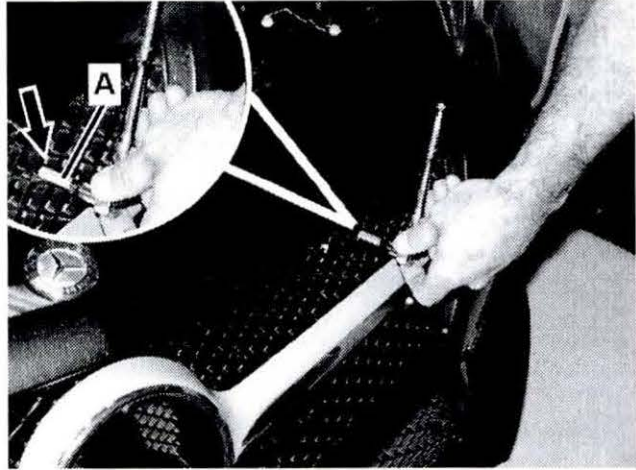
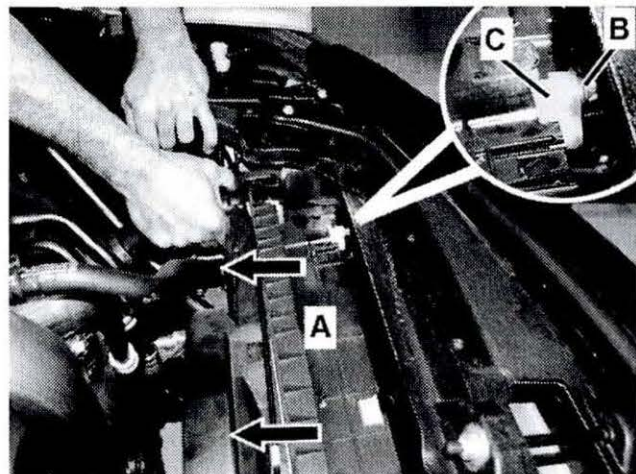

Figure 4
Figure 6
12. Insert extension (A, Figure 4) with socket through radiator grill (arrow) and loosen condenser refrigerant line bolt (B, Figure 6).
- Torque bolt (B, Figure 6) to 8 Nm when installing.
14. Carefully pull radiator assembly (A, Figure 6) in direction of arrows (Figure 6) then remove condenser refrigerant line bolt (B)
15. Route condenser refrigerant line (C, Figure 6) out through opening (arrow, Figure 7) in radiator side shroud (24, Figure 7) and remove from engine compartment.
16. Install **new** condenser refrigerant line (C, Figure 6) in reverse order.